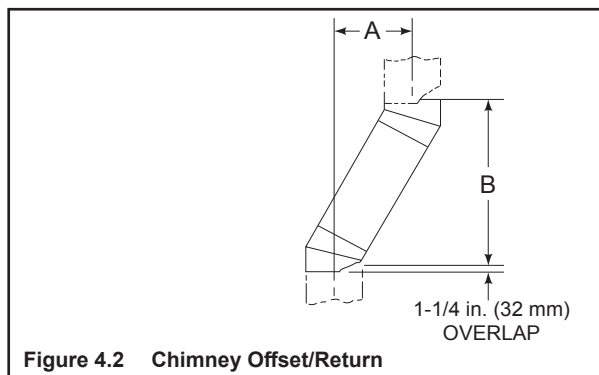

Figure 4.2 Chimney Offset/Return
- Measure the shift needed to avoid the overhead obstruction. Refer to dimension A in Figure 4.2.
Your "A" dimension from Figure 4.2 is 14 1/2 in. (368 mm). Using Table 4.3 the dimension closest to, but not less than 14 1/2 in. (368 mm) is 15 3/4 in. (400 mm) using a 30° offset/return.